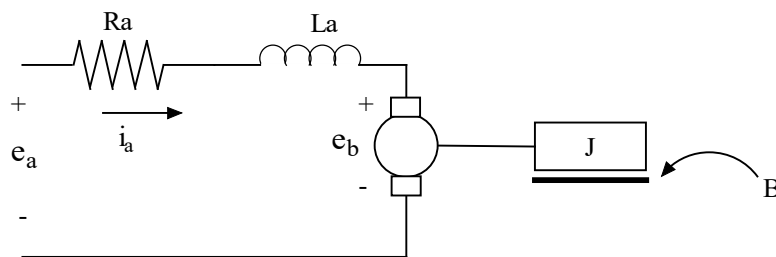

Figure 1: D.C. Motor Diagram
4. Write the 4 electrical and mechanical equations that may be used to find the transfer function of the DC motor  $\omega(s)/E_a(s)$ . You should use Figure 1, the equations provided in the lab, and the example reference in Section 3.4 of the lab manual as a guide.